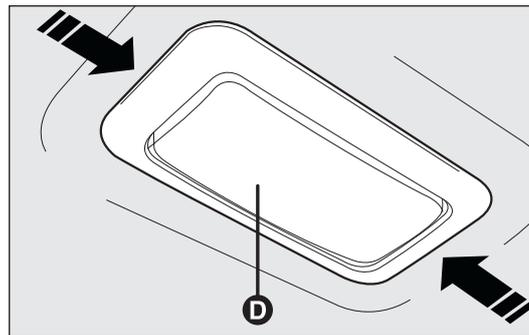

fig. 177
- manipulate the points shown by the arrows and remove light D-fig. 177;
- re-close the protective flap E and fit light D-fig. 177 into its housing, making sure it locks into place properly.